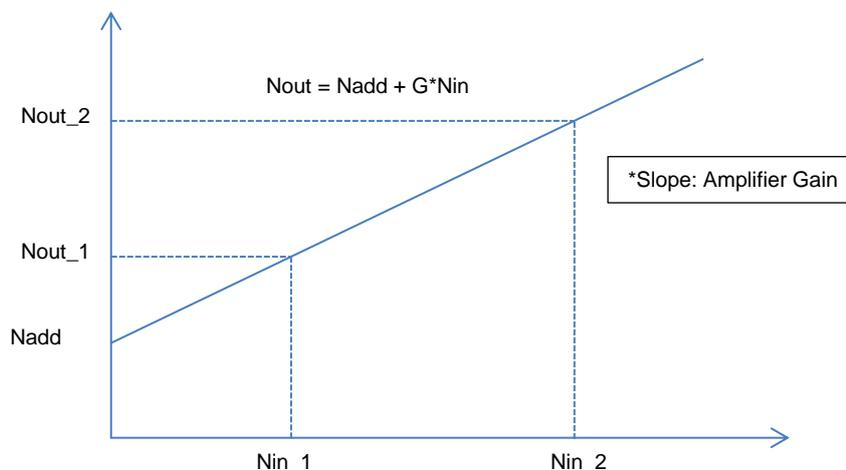

Fig. 2-1. Response at Input of Noise to Linear Amplifier
Figure 2-1 illustrates Eq. (5) as a graph. The important point to draw from this is that *Nadd* and *Gain* can be found from the measurement results for any two points.